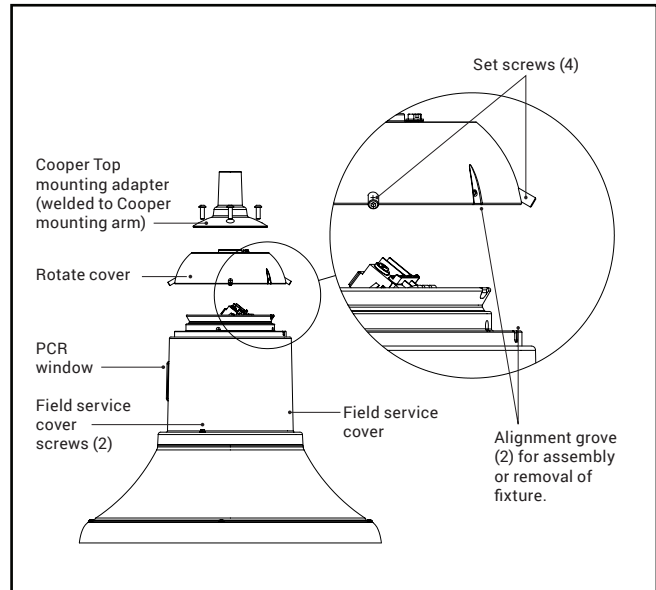

Figure 2.
2. Remove the Rotate Cover from the fixture by screwing out the (4) set screws to 1/4" protrusion from the Rotate Cover. Rotate the Rotate Cover so that the grooves align. Lift off the Rotate Cover off of the fixture (Figure 2).
8. Lift fixture up to the Rotate Cover and align grooves (Figure 2). Rotate fixture so the grooves DO NOT align and the Street Side arrow (label on bottom of fixture) is towards street side.